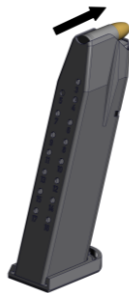

Figure 7
1. Push the cartridges forward with your thumb until they are out from under the magazine lips (Figure 7).
The number of cartridges in the magazine can be verified by the indicator holes (Figure 7). Do not fill the magazine with more than the number of rounds specified.